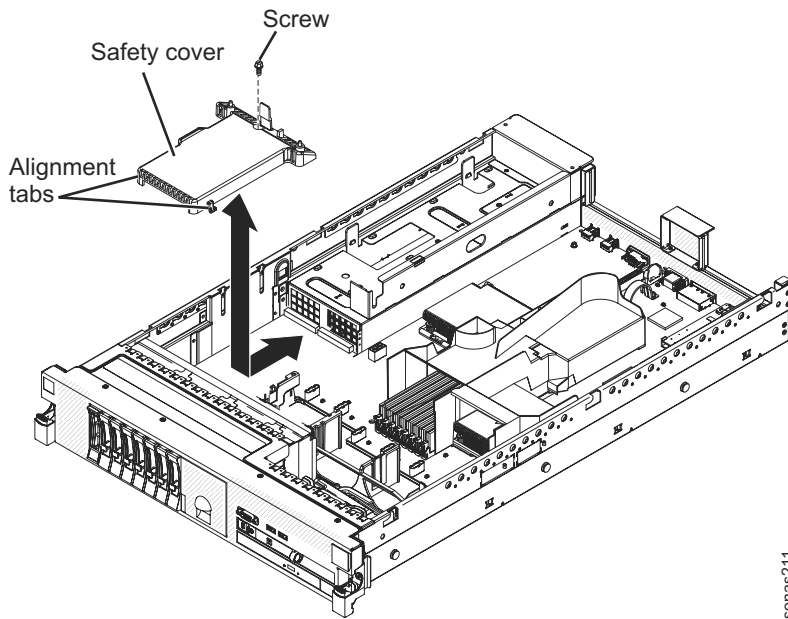

Figure 44. 240 VA safety cover
6. Remove the screw from the safety cover. See Figure 44 on page 164.